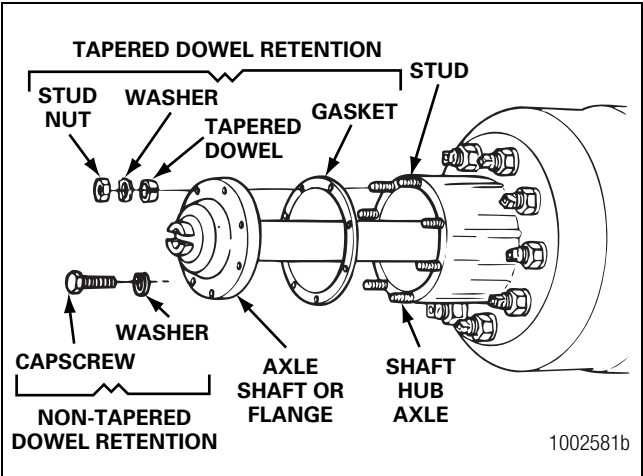

Figure 5.82
- Install the gaskets and axle shafts into the axle housing and carrier. The gasket and flange of the axle shafts must fit flat against the wheel hub. Figure 5.82.
- Install the gasket and the axle shaft into the housing. The gasket and the flange of the axle shaft must fit flat against the wheel hub. Figure 5.82.